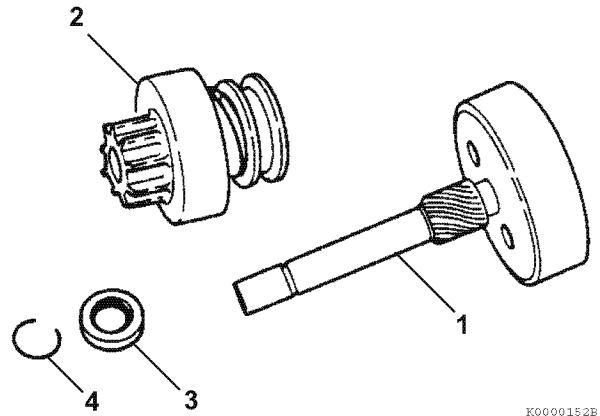

Figure 11-29
3. Reinstall the pinion clutch assembly (2, **Figure 11-29**), return spring (if equipped) and pinion stop (3, **Figure 11-29**) onto the pinion shaft (1, **Figure 11-29**). Reinstall the retaining ring (4, **Figure 11-29**) in the groove in the pinion shaft. Slide the pinion stop over the retaining ring.